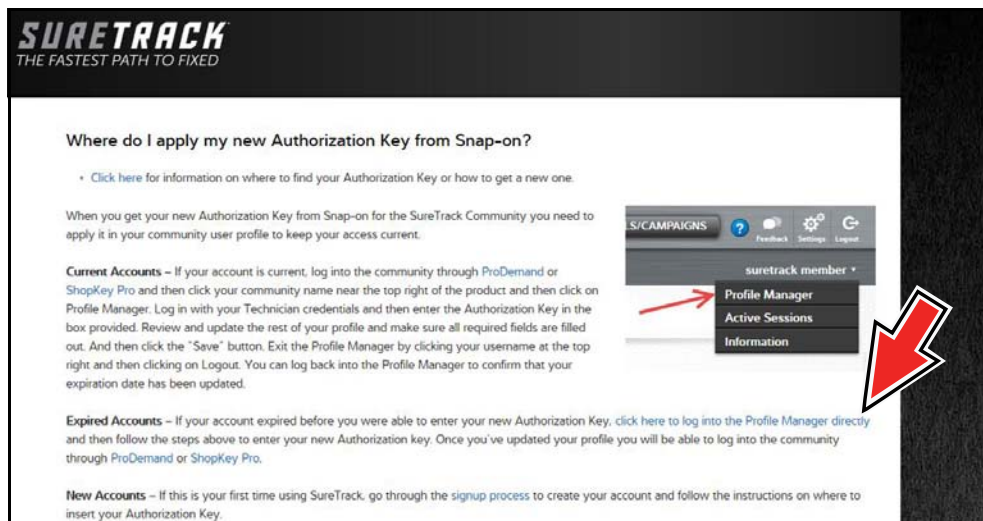

Figure 5-21
3. The SureTrack FAQ webpage opens (Figure 5-21).